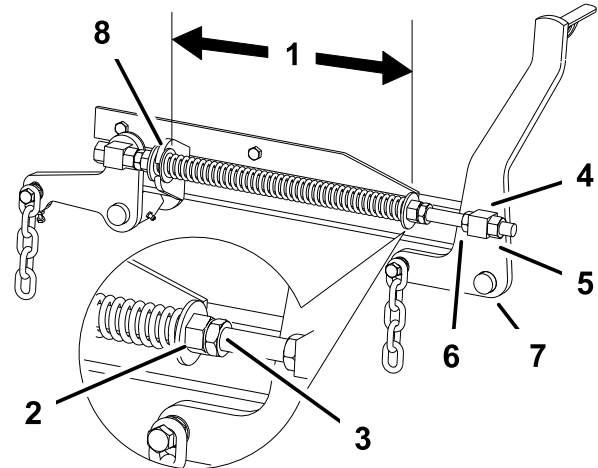

Figure 83
- Check the distance between the two large washers, it needs to be 11-1/2 inches (29.2 cm) (Figure 83).
- Adjust this distance, by loosening the spring jam nut and turning the nut in front of each spring (Figure 83). Turning the nut clockwise will shorten the spring; counter-clockwise will lengthen the spring.
- Lock the nut into position by tightening the spring jam nut (Figure 83).